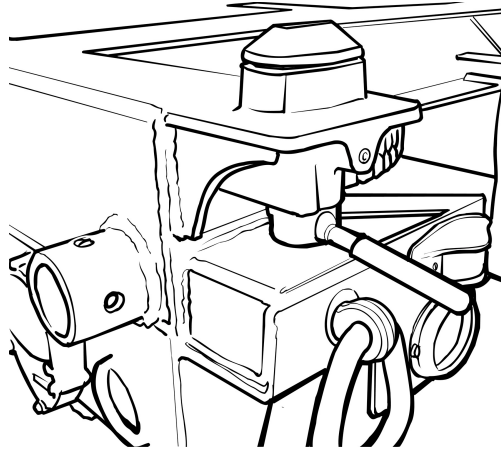

Figure 2. ISO Lock (shown unlocked).
Corner blocks on each of the top corners provide attachment points for lifting the container with an RTCH or crane. Identical blocks on the bottom corners are engaged by ISO locks on the trailer (see Figure 2) to secure the container in place.
1. Ensure that the four ISO locks on the corners of the trailer are unlocked (handles pointing outward from the sides of the trailer). See Figure 2.